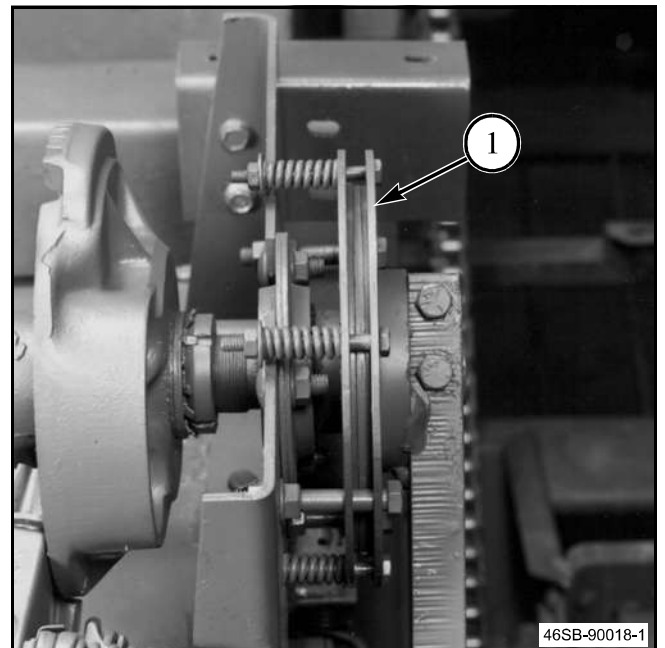

FIG. 26
FIG. 26: The knotter brake (1) keeps the knotters and needles from moving out of the neutral position from the time the knotters are tripped until the knotters are driven by the clutch drive sprocket.